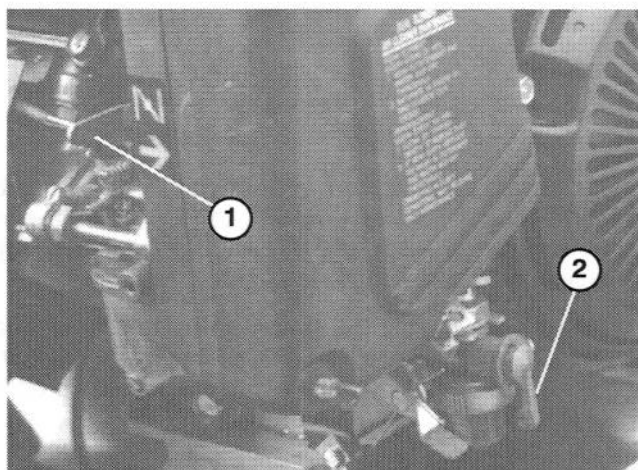

Figure 18
Choke Lever (Fig. 18) - Located on left front of engine. Lever has two positions: RUN and CHOKE. Move lever
Fuel Shut-off Valve (Fig. 18) - Located on left front of engine. Valve has two positions: CLOSED and OPEN. Move lever to closed position when storing or transporting machine. Open valve before starting engine.
2. Open fuel shut-off valve on engine (Fig. 18).
5. Move choke lever (Fig. 18) to half-open position when starting a cold engine. Choke may not be required when starting a warm engine.